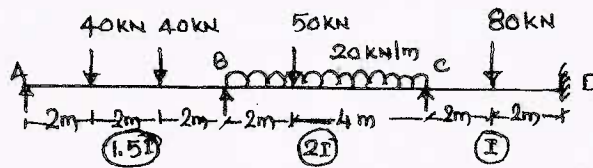

Fig.Q5
- 5 Analyse the three span continuous beam shown in Fig.Q5 by using Kani's method. Draw BMD, SFD and elastic curve.